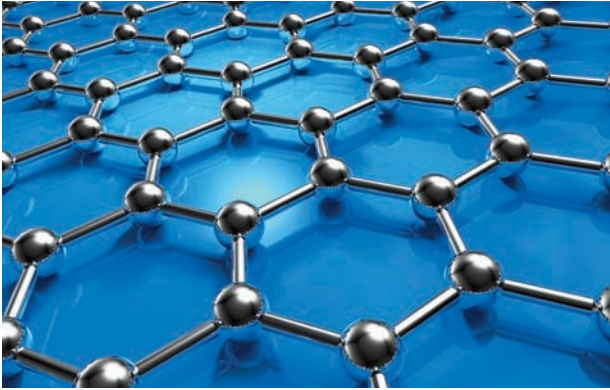

Figure 26 Nanotechnology is moving from a primarily materials-based technology to a core microdevice and microcomponent electronics and device technology.
- **Nanotechnology.** Our grasp of what is possible is expanding exponentially, and as a result nanotech is moving from a primarily materials-based technology to a core microdevice and microcomponent electronics and device technology (**Figure 26**).